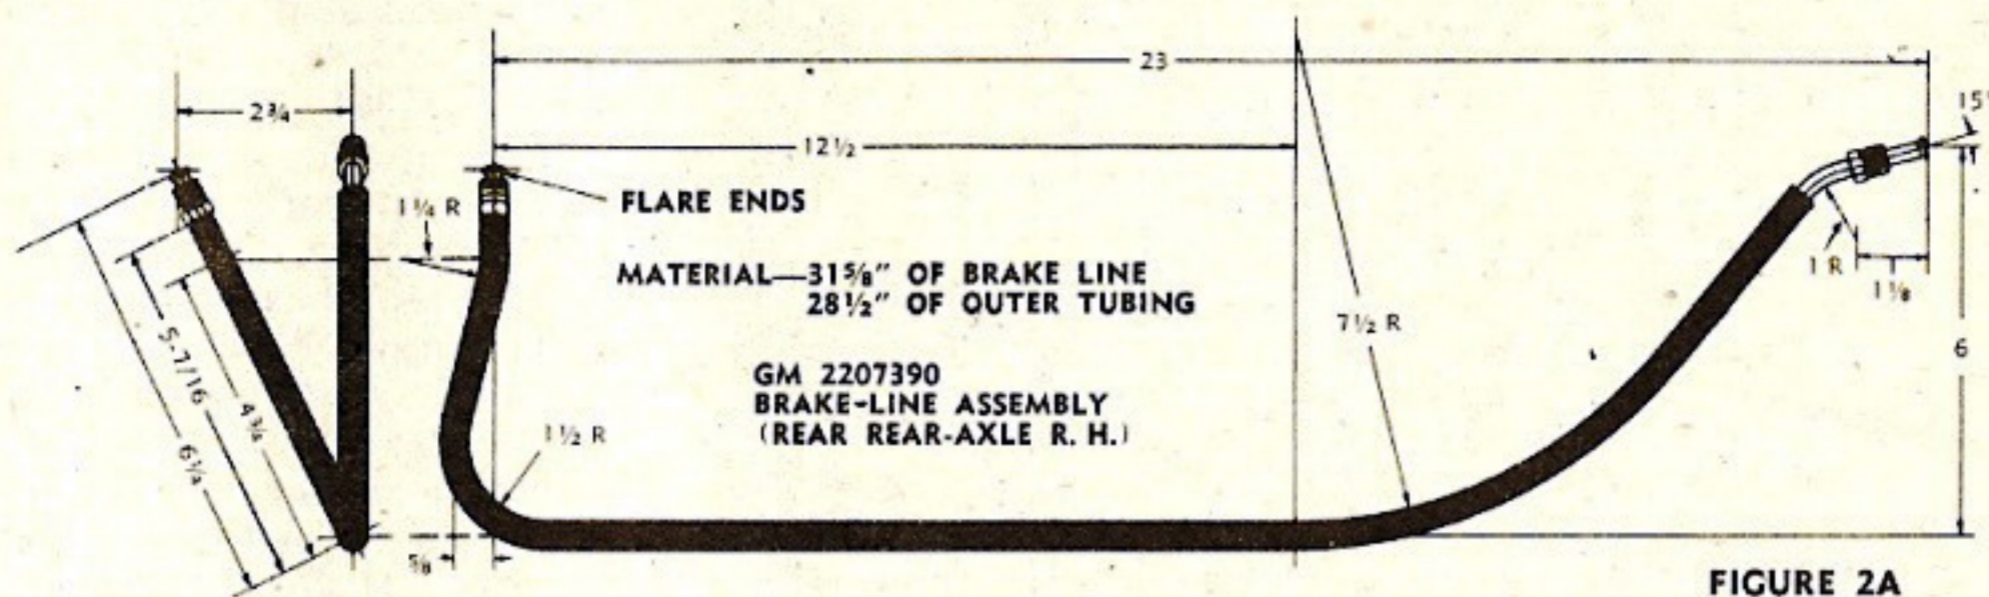
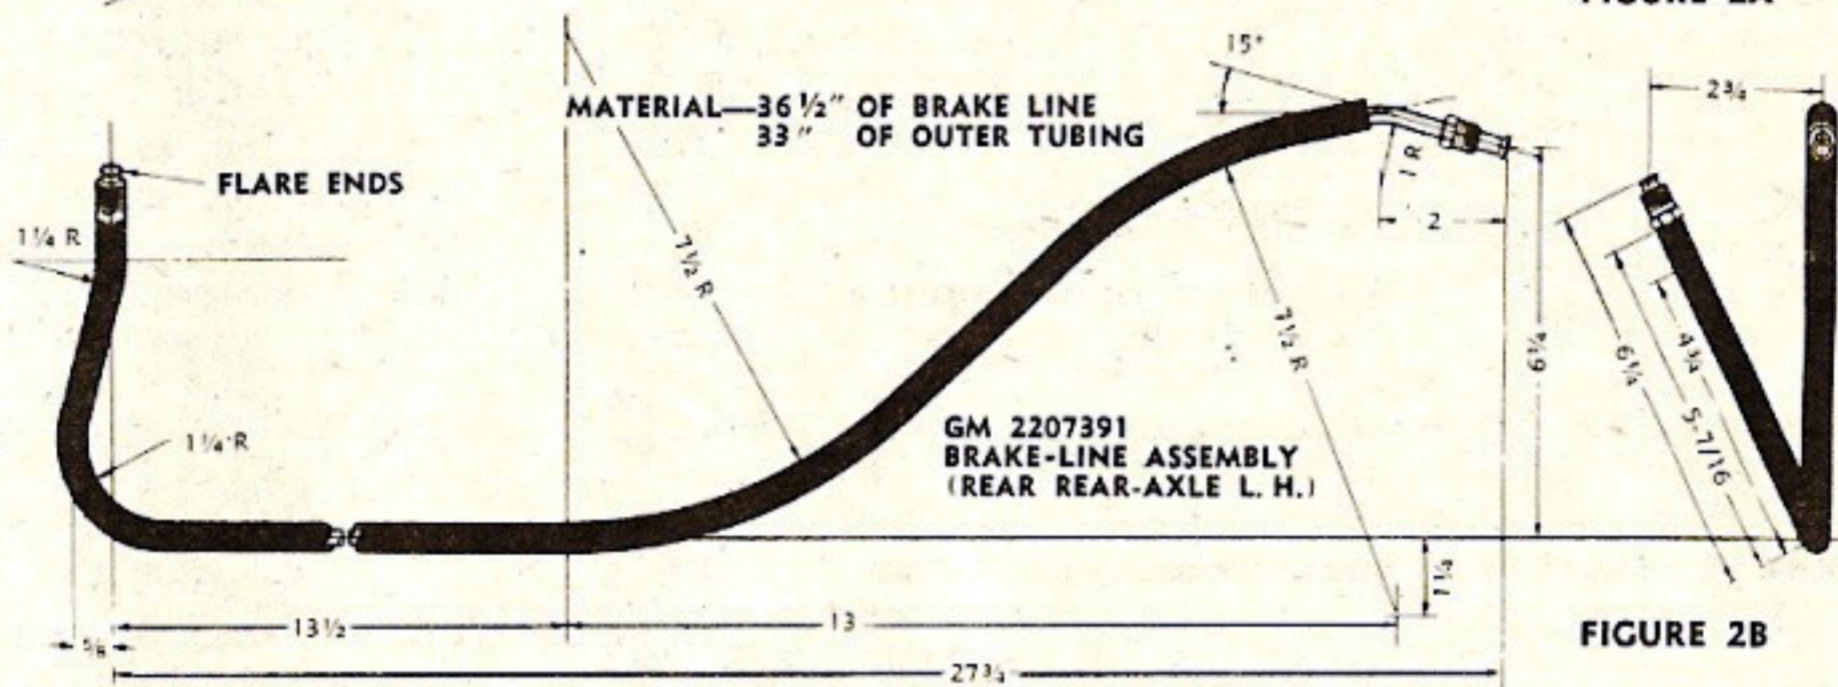
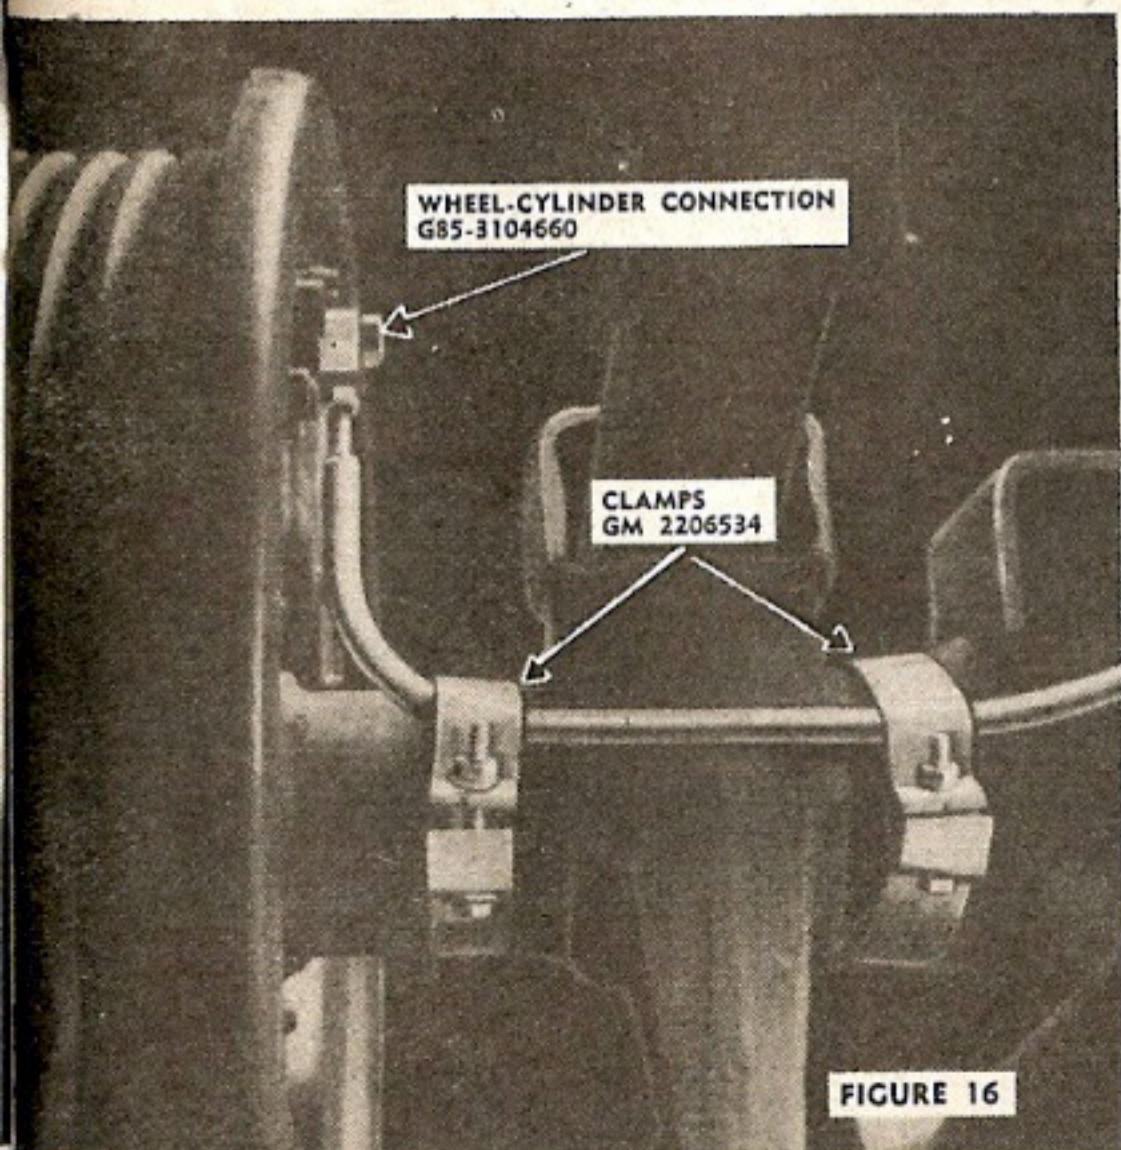

FIGURE 2A
FIGURE 2B
FIGURE 16
(3) Put the 4 wheel-cylinder connections (G85-3104660), Fig. 16, on the four rear-wheels, right where you unscrewed the rubber brake-lines. Use 4 bolts (G85-3101880), and 8 gaskets (G85-3115260), one on each side of the wheel-cylinder connections.
(4) Connect the brake-line assemblies for the rear rear-axle (GM 2207390, Fig. 2a and GM 2207391, Fig. 2b) with 1 connector (G85-3104560) Fig. 15. Position the connected lines on the rear rear-axle and fasten the ends to the wheel-brake-cylinder connections. Unscrew 2 of the differential-carrier bolts and use them to fasten the brake line with 2 clips (GM 065232, Fig. 11), in the same manner as the clips and differential-carrier-cover bolts shown in Fig. 15. Then clamp the rest of the brake-line to the axle housing as shown in Fig. 14 (you can see a "close-up" of two clamps in Fig. 16) with 4 clamps (GM 2206534, Fig. 8), 4 bolts (H1-5451821), 4 washers (H1-7043681), and 4 nuts (H1-4167501). After the brake-line is fastened, the connector in the center should be about 15° off vertical—away from the axle.